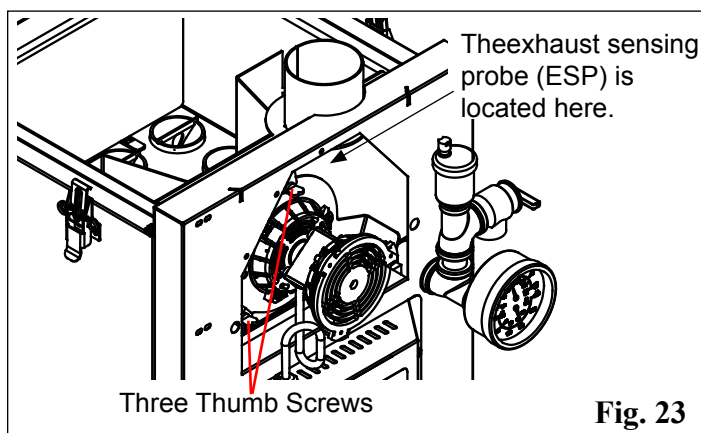

Fig. 23
Loosen the three (3) thumb screws about 4 turns each. See Fig. 23. Hold the motor head with one hand and the blower plate handle with the other hand. Pull outward on the plate handle until the complete unit comes loose. Now rotate the plate counter-clockwise about 1/8 turn. This will allow the complete assembly to be removed from the blower chamber.
NOTE: The horizontal flue pipe directly above the boiler is the first place fly ash will settle, due to the slowing of flue gas velocity through horizontal pipe. Cleaning of horizontal venting pipes is very important to the efficiency of this boiler. **NOTE:** The exhaust probe sensing tip extends into this same area. **CARE MUST BE TAKEN NOT TO DAMAGE THE ESP DURING CLEANING.** Bending of the ESP will make it difficult to remove if it should become necessary. See Fig. 23.